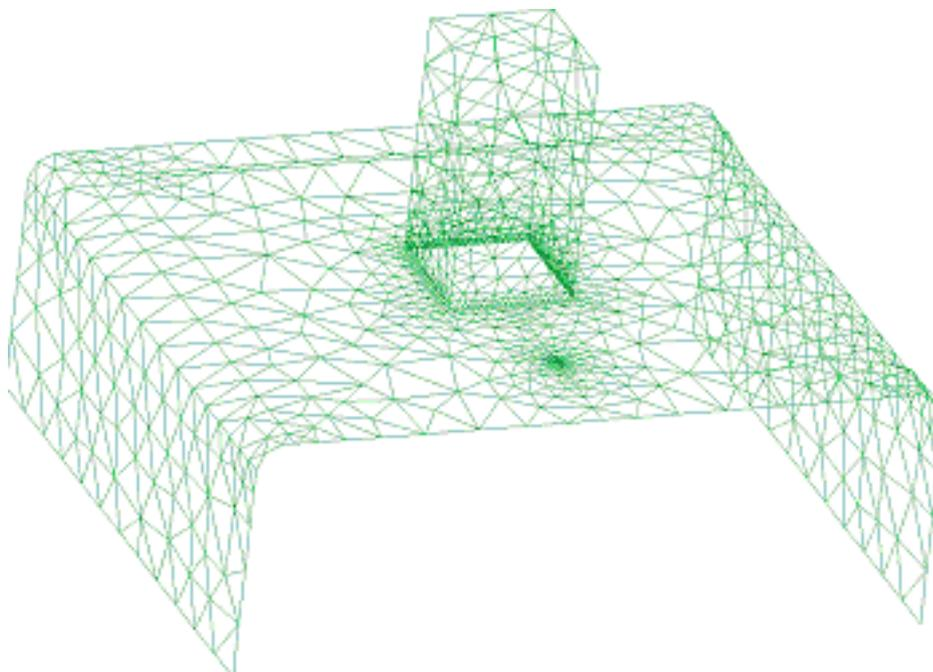

Figure 7. Mesh with a concentration of elements around lines.
- 5 . Another window appears in which you may enter a maximum element size. Leave the default value unaltered and click **OK**. This results in a high concentration of elements around the chosen lines, given that the selected element size (0.5) is much smaller than that of the rest of the elements in the model (see Figure 7).